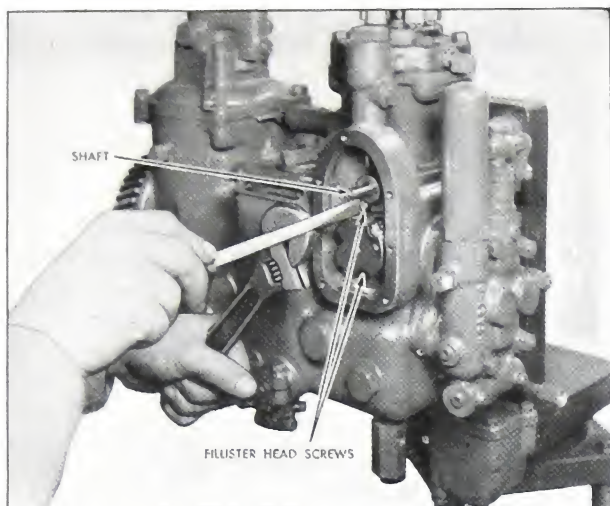

Fig. 5-166. Fillister head screws
2. Secure in place with four fillister head screws and lock washers. Tighten evenly and securely with a heavy duty screwdriver and wrench. Fig. 5-166.